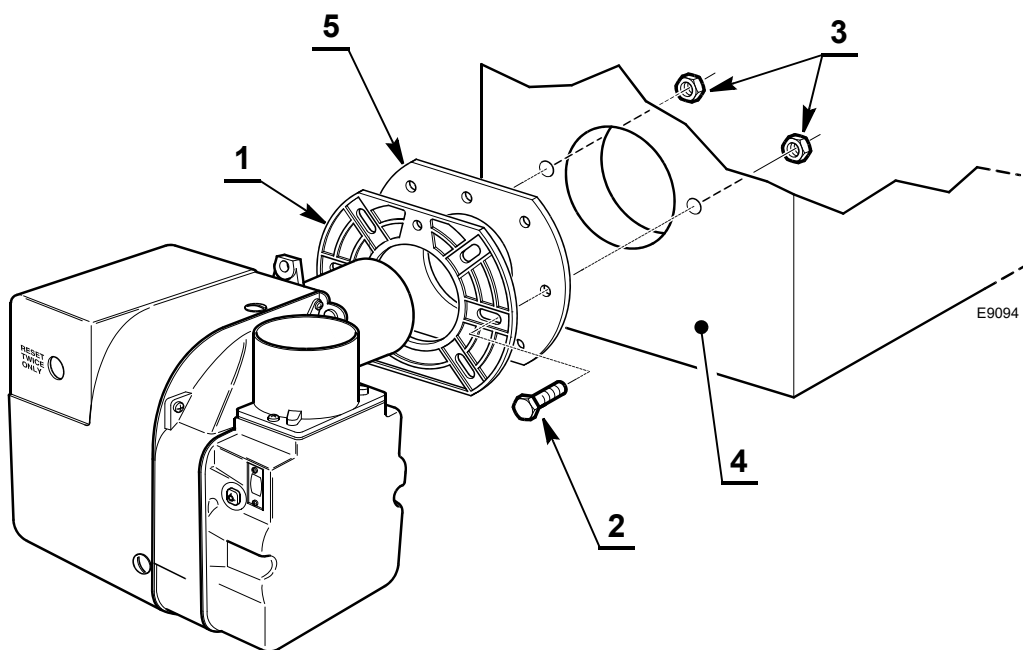

Fig. 8
- Fix the flange 1)(Fig. 8) to the boiler door 4) using screws 2) and (if necessary) the nuts 3) interposing the insulating gas-gasket 5).